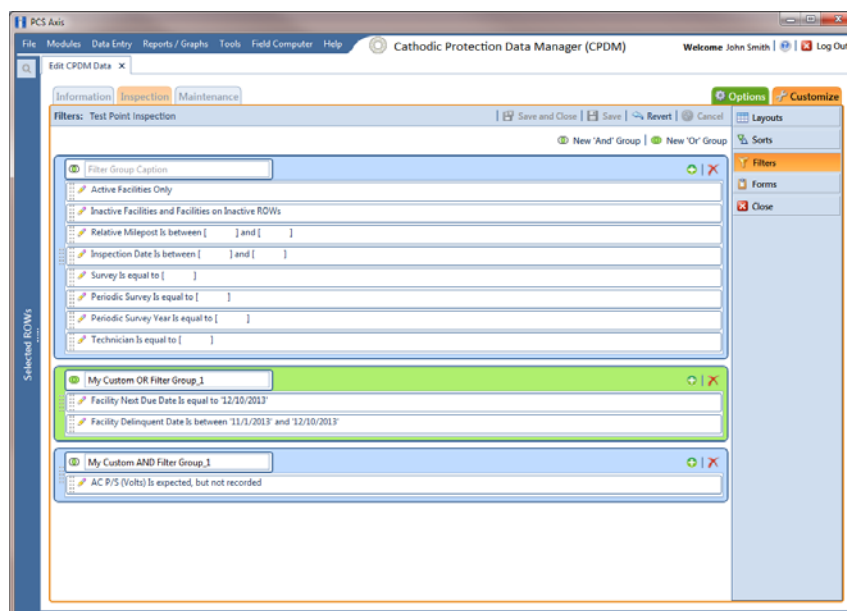

Figure 6-78. Filters
- 4 Click the **Customize** tab , then the **Filters** button  to open the *Filters* page (Figure 6-78).